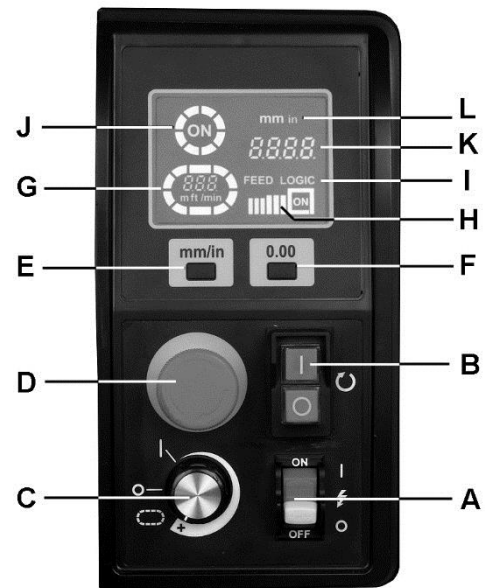

Figure 16
Figure 16 shows control panel functions.
Lower drum until it just contacts workpiece, then push zero depth reset button (F, Figure 16) to zero the setting of drum height from workpiece. The handwheel is then used to lower the drum in exact increments for each pass, by viewing the depth on the control display (K).
Press E-stop button (D, Figure 16) to shut down all machine operations. When E-stop is pressed, drum motor stops and “ON” (J) goes dark on display. Conveyor motor also stops, and racetrack (G) flashes.
IMPORTANT: The E-stop remains engaged until it is rotated clockwise for release. Also, the conveyor speed dial (C, Figure 16) must be returned to OFF position before restarting machine.
The Feed Logic control continuously monitors the load on the drum motor, and automatically regulates the speed of the conveyor motor to maintain highest feed rate without overload. When "Feed Logic" flashes and "ON" illuminates on the display (I, Figure 16), the Feed Logic control has detected too great a depth of cut and/or too fast a feed rate.